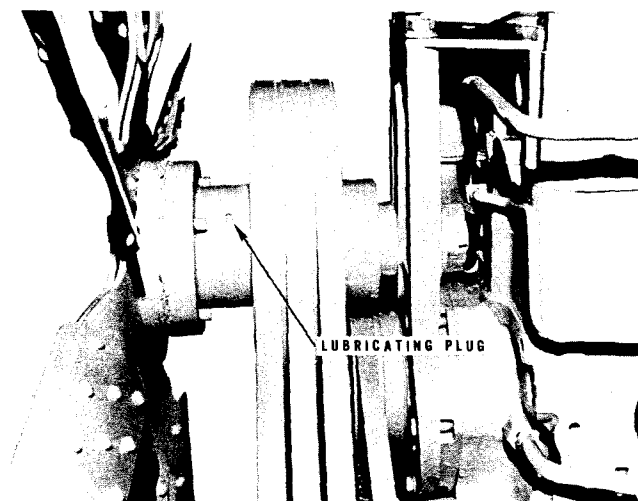

Fig. 5-11. Fan hub lubricating point
1. If water pump and fan hub contains grease fittings or plugs through which grease may be applied, give one "shot" (approx. 1 tablespoon) each "E" check. Fig. 5-11.